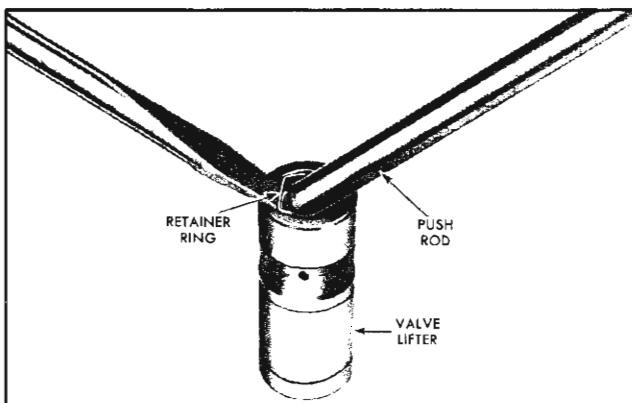

Fig. 6-21 Removing Push Rod Seat Retainer Ring
1. Remove push rod seat retainer ring by holding seat down with push rod while dislodging spring from lifter body with a pointed tool (Fig. 6-21). NOTE: It may be necessary to unseat lifter ball, using plunger unloader J-5097, before plunger can be pushed down.